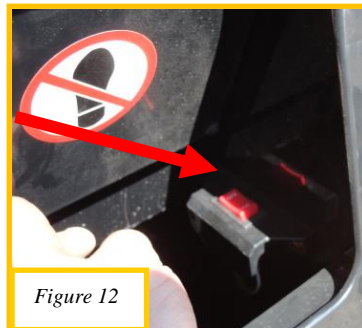
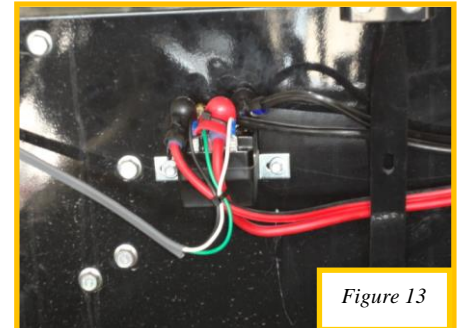

Figure 12
Figure 13
With the front extension flipped up and drill 13/32" holes through the outside support braces 3-3/4" down from the inside lip of the extension and centered on the brace. (See Figure 11) Fold the extension down and place the front rolltube (tarp) on the extension so the holes line up. Make sure you have the side marked Passenger (PS) on the rolltube assembly on the passenger (right) side of the combine. Then slide 3/8" x 5" carriage head bolts through the 2 x 2 aluminum tubing and the extension. Drill another set of holes through the bottom cross brace that is centered with the braces of the extension. See Figure 12. Slide two more 3/8" x 5" carriage head bolts through the 2 x 2 aluminum tubing and the extension. Secure with two plastic 3/8" female knobs on the inside of the hopper. Place the extension back up into place.
Mount the switch bracket on the inside of the sample door with 1/4" x 1" bolts and nylon lock nuts. (Figure 12) Mount the solenoid block on the back side of the hopper, in front of the engine, and under the platform. Use 1/4" x 1" self-drilling screws to secure it. (See Figure 13)